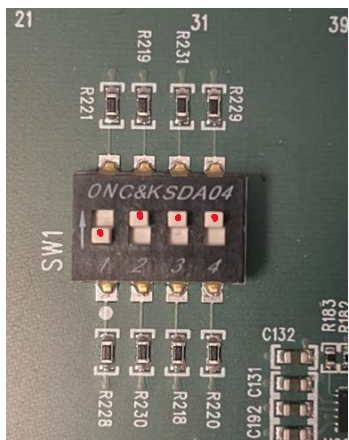

Figure 12: BOOT mode (SW1) set to QSPI.
- 4.1.3.2. Set BOOT Mode to QSPI (0001) (Figure 12).